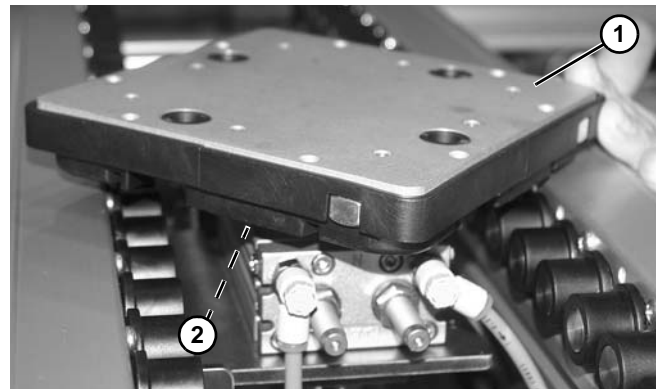

Figure 51
6. Place pallet (**Figure 51, item 1**) on lift and rotate plate (**Figure 51, item 2**). Raise top plate to underside of pallet.